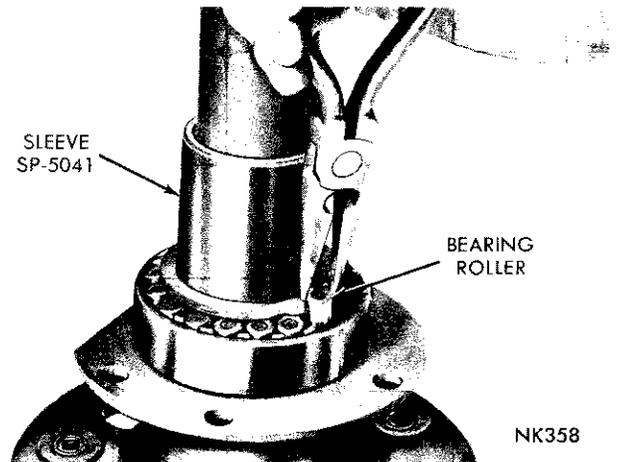

Fig. 10—Removing the Bearing Rollers
(4) Remove the bearing rollers from the section of the flange that was ground away (Fig. 10).